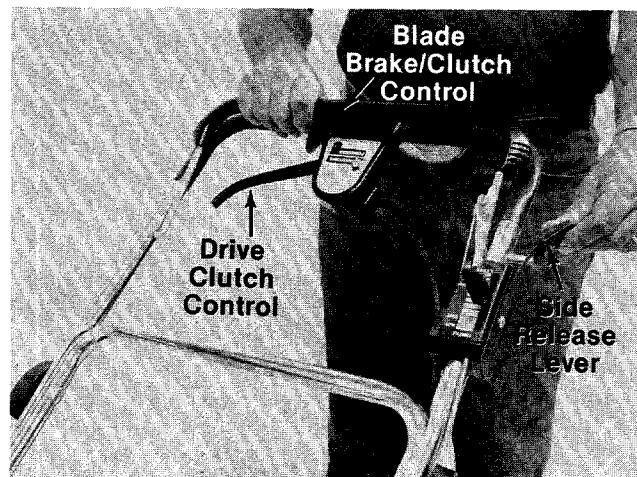

FIGURE 16.
- b. Push release lever (see figure 16), then squeeze blade control handle against upper handle.
Squeezing the drive clutch control engages the drive mechanism to the rear wheels. Releasing the clutch control stops the rear wheels from driving. Release the drive clutch control to slow down when negotiating an obstacle, making a turn or stopping. See figure 16.
To engage the blade, pull the side release lever away from the unit. See figure 16. Pull the blade brake/clutch control handle down against the upper handle. Release side lever.
2. To engage the blade, pull the side release lever away from the unit. Pull the blade brake/clutch control handle down against the upper handle. Release the side lever. See figure 16.